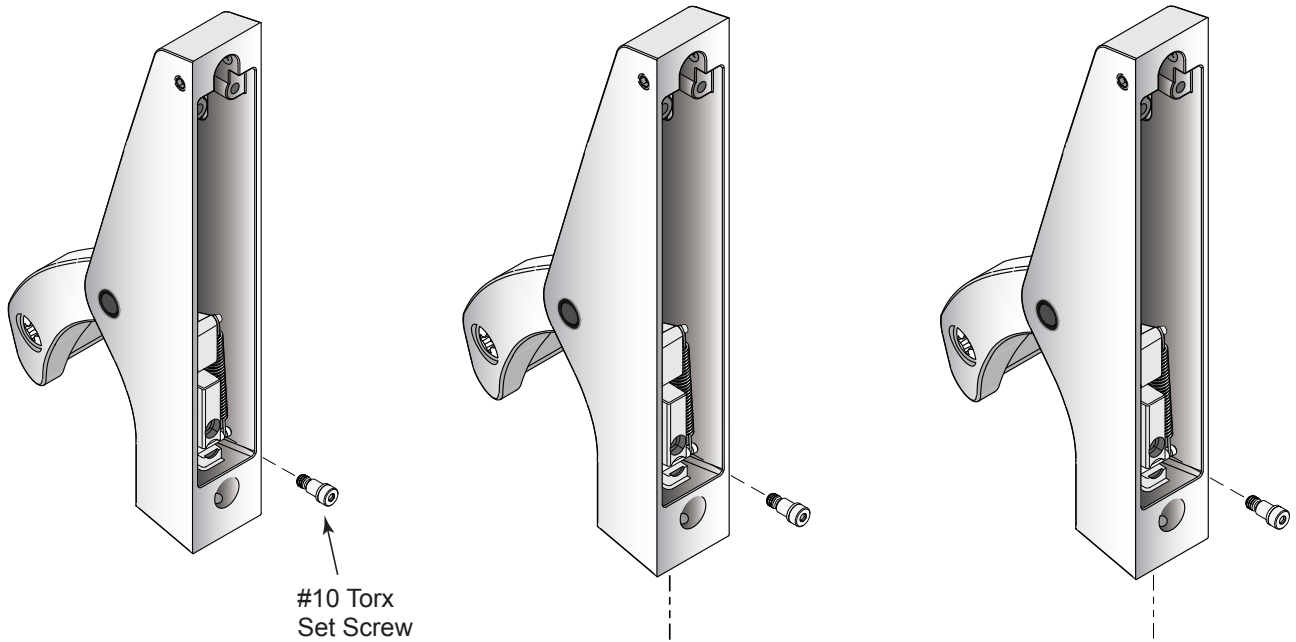

FIG. 23
1. Depress Handle and remove the #10 Torx Set Screw. (Fig. 23).